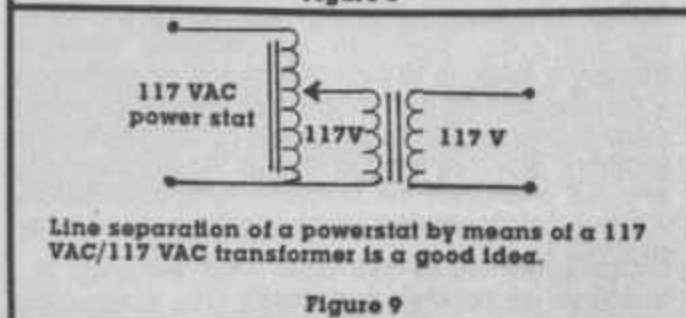

Figure 9
As mentioned before, powerstats can deliver a deadly shock even though they are set to deliver only a few volts. This is because one leg is at line voltage. Line separation can solve this problem: (Figure 9)
**Figure 9:** Make sure the IC is defective before trying to remove it. Check for a new replacement. Run a piece of solder wick and iron point down each row of soldered pins to remove the excess solder. Clean off each PC board wiring before inserting new IC.